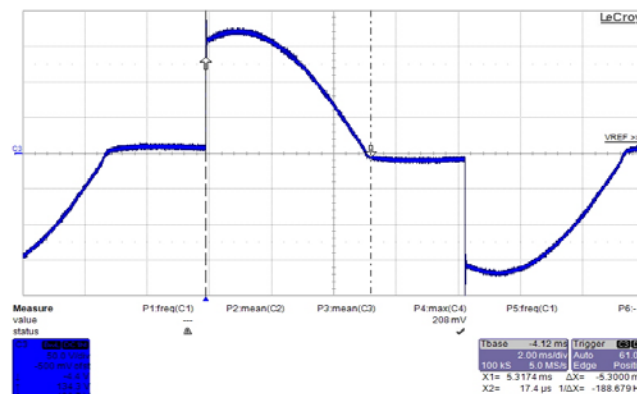

FIGURE 3. TYPICAL VOLTAGE AFTER THE TRIAC DIMMER
Unlike the active power factor correction converters, a voltage follower works in discontinuous conduction mode with comparatively constant duty ratio (D) within each utility cycle. There is no need for a PFC controller, or input voltage/current sense circuit. A simplified block diagram is shown in Figure 4. A typical waveform of the voltage after a triac dimmer is shown in Figure 3, where high dv/dt is noticed as the triac is turned on. A small capacitor C_1 is recommended here to filter out the switching noises. C_1 should be very small so that the voltage across it follows closely the rectified input voltage $|V_{AC}|$. An Electrolytic